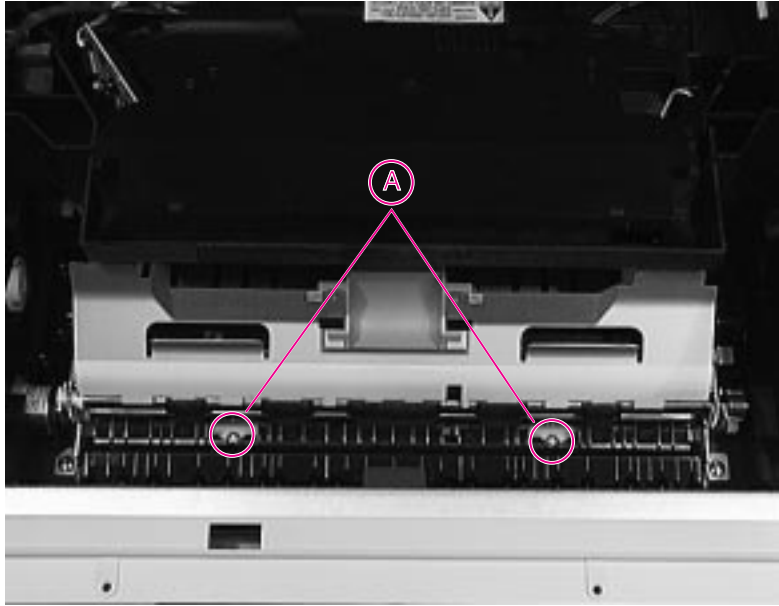

Figure 6-36 Location of two “common” screws (inside printer)
- 3 Remove the two machine screws in the center of the printer, under the Registration Assembly Roller Guide. See Figure 6-36.